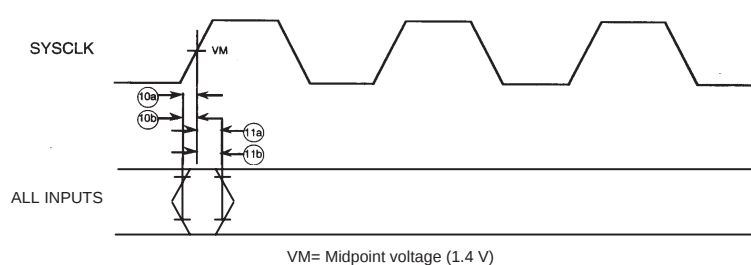
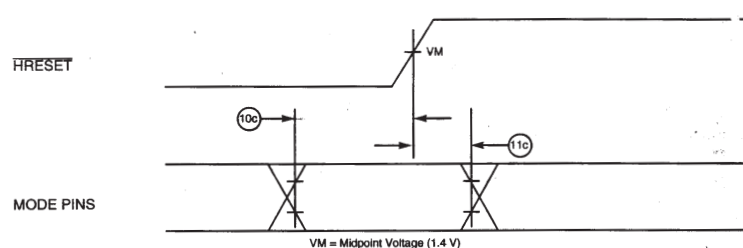

Figure 1 : Input timing diagram
Figure 2 : Mode select input timing diagram
Table 1 provides the input AC timing specifications for the 603e as defined in Figure 1 and Figure 2.
1. All input specifications are measured from the TTL level (0.8 or 2.0 V) of the signal in question to the 1.4 V of the rising edge of the input SYSCLK. Both input and output timings are measured at the pin. See Figure 2.
4. The setup and hold time is with respect to the rising edge of $\overline{\text{HRESET}}$. See Figure 2.